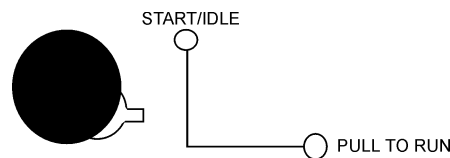

Figure 20. Engine Throttle Lever (Up)
9. Pull the engine throttle lever and turn left until the lever sets on the knob (Figure 20).